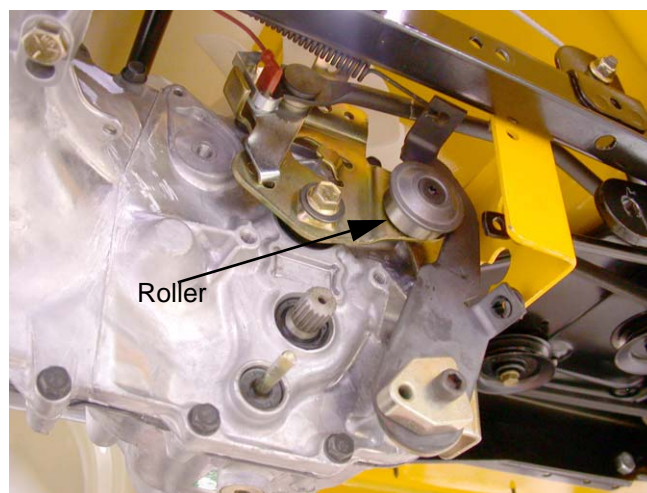

Figure 25.7
- 25.7. Test drive the unit to see if it still creeps. If it does you will have to adjust the input arm on the hydro: Confirm that the roller on the return arm draws fully into the valley in the cam surface on the front of the input arm. See Figure 25.7.